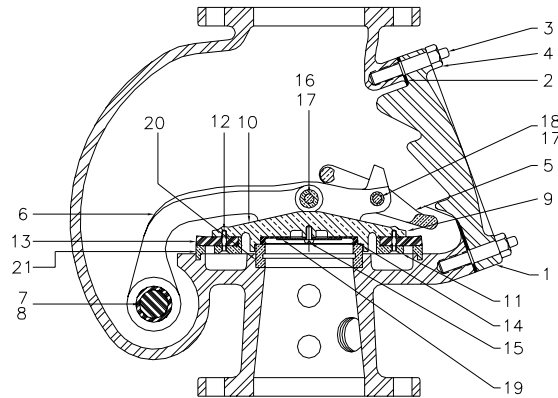

FIG. 1
Close Main Controlling Valve or Post Indicator to shut off water supply to Sprinkler System. Open valve 1 (Fig. 2) to drain sprinkler system. Gong and electric bell may be shut off by closing valve 2 (Fig. 2). Vent sprinkler system by opening 3/4" Inspector's Test Valve which is normally located at the top of the system. After system is thoroughly drained, remove cover plate, Item 1 (Fig. 1) for resetting dry valve. Raise clapper off seat and scoop out any scale or solid particles found in the intermediate chamber, in the bottom of the valve, between the air and water seats. With a clean piece of cloth **wipe the surfaces of the rubber seats** on the swinging clapper, **also the tin seats in the valve. Never apply grease, tallow, or any other substance to water or air seat.** Let bronze clapper down on its seat **making sure that the rubber air ring presses evenly**
**all around the air seat.** Put on cover plate, Item 1 (Fig. 1) making sure that gasket is in good condition. Replace nuts and tighten evenly, a little at a time, all around. Drip valves are found at low points (if any) on sprinkler piping. They would not be drained by previous operations - open these valves for draining after removing plugs and close when water stops running. Close 3/4" Inspector's Test Valves, previously opened to vent system. **Replace sprinklers fused by fire.** Prime by opening until priming level even with cup. Remove plug 7 (Fig. 2) and close valve 4 (Fig. 2). **Water must not be allowed to stand above the priming water level.** Open valve 6 (Fig. 2) and pump air pressure into system. When ten pounds pressure has been built up open drip valves again to force water from low points of system then close drip valves tightly and plug. Pump the correct air pressure into the sprinkler system then close valve 6 (Fig. 2) tightly. **Make sure there is no leakage of priming water by the rubber air seat into drip cup 10 (Fig. 2) by observing automatic drain valve 9 (Fig. 2).** **Note:** Never allow air pressure to drop below minimum limit, to safeguard against accidental tripping of dry valve. Air pressure required for accidental tripping of dry valve. Air pressure required for sprinkler systems should be calculated at approximately one pound of air for every six pounds of water pressure. The air pressure should be maintained at approximately twenty pounds above calculated air pressure per NFPA 5-2.7.7.